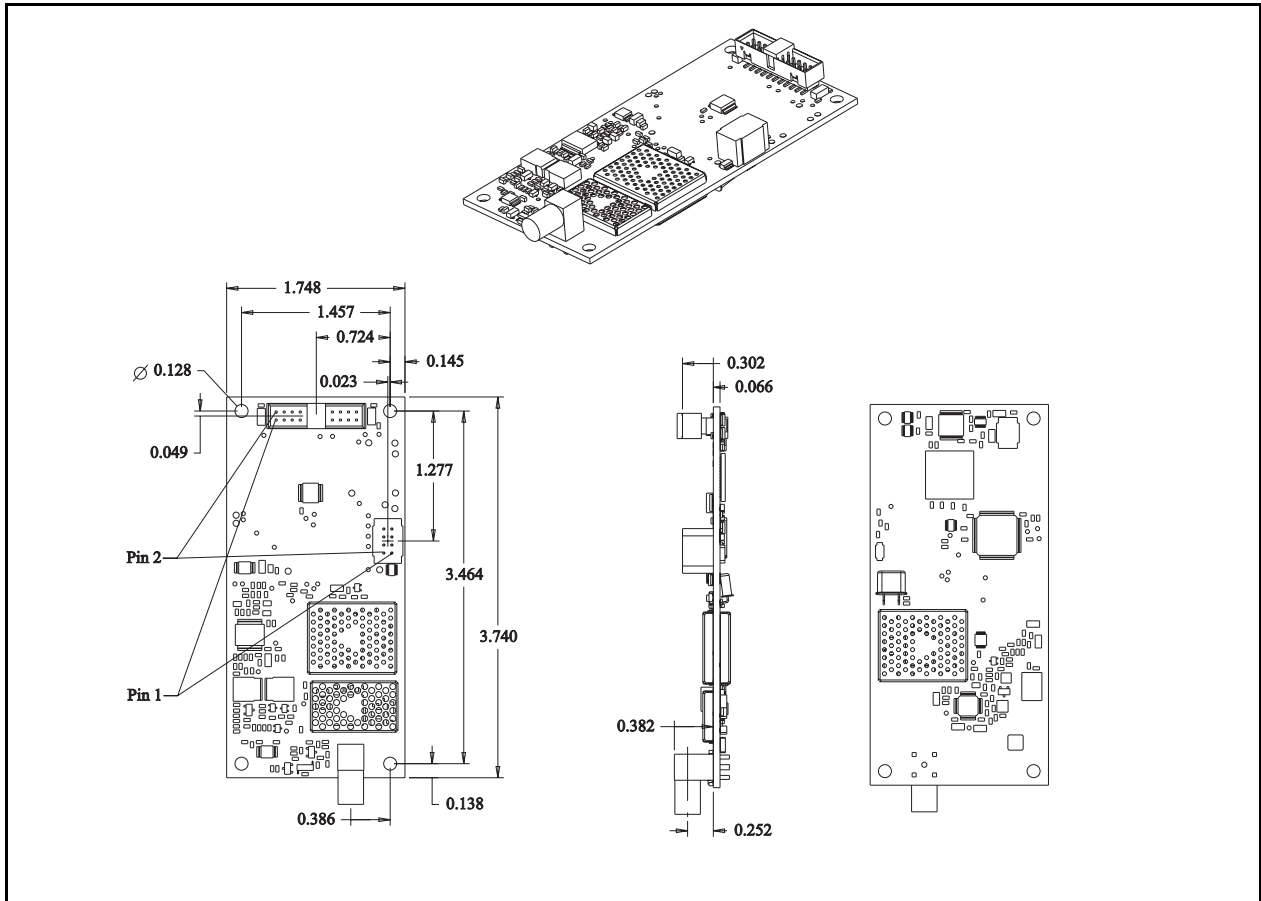

Figure 5-1. Dimensional Drawing
The data transceiver is a small, easy-to-operate product that requires comparatively little space. Installation requires common tools and equipment (see Table 5-2). A dimensional drawing is provided (see Figure 5-1).
1. Use the dimensions given in Figure 5-1 (1.457 inches and 3.464 inches) to mark the mounting location. All the dimensions in Figure 5-1 are in inches.